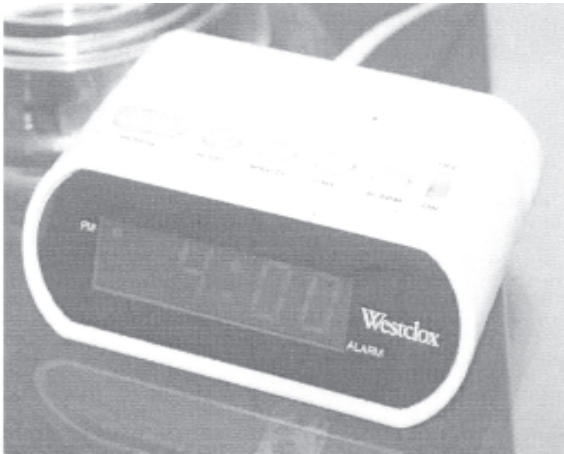

Fig. 30.6: A Digital Clock
The integrated circuit (IC) technology (discussed in module 8, unit 2) is now widely used. The basic advantages are: small size, light weight and economy. One of the most common and day-to-day use of this technology is in digital clocks. Fig. 30.6 shows a digital clock. Now a days wrist watches, table clocks are mostly digital. The flight information at airports, train schedules at railway stations, and breaking news at Newspaper buildings are displayed digitally. Even in a microwave oven, the time of cooking, frying or roasting is displayed digitally. Now a days people speak of digital technology for mobile learning supported by computers and mobile phones. A digital clock is made of digital counters which in turn are made up of flip flops (a device which latches binary digits). It not only gives time, but can also be used as a timer. A timer sets the duration or time at which some operation is to be performed (e.g. alarm clock, switching on/off radio, TV etc.). IC-555 integrated cricuit is most commonly used in timers.